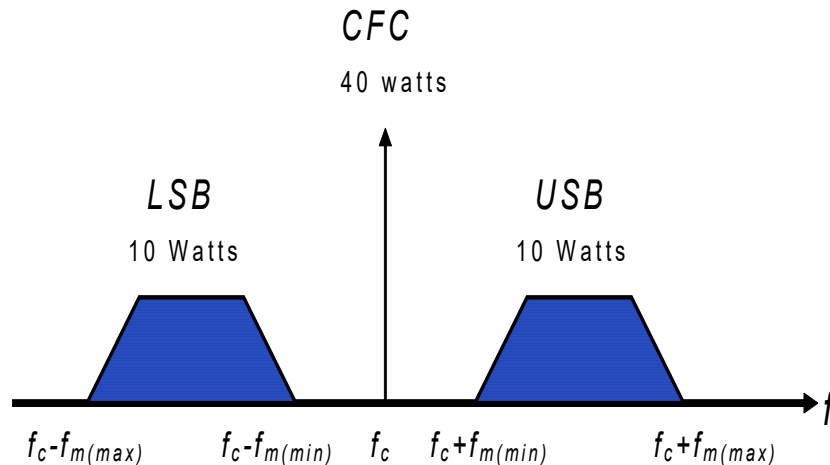
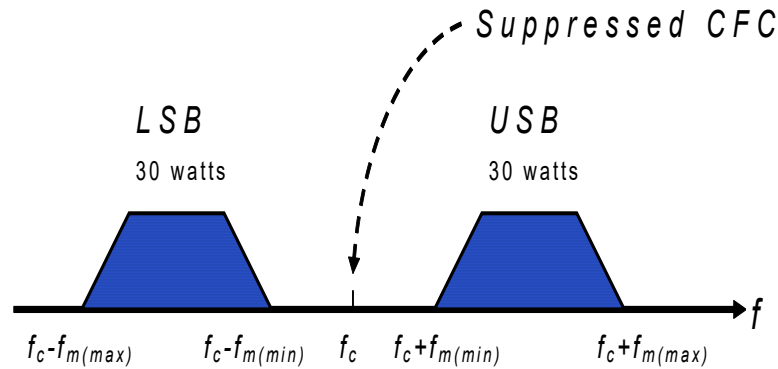

Figure 6-1: A Conventional AM (DSB-FC) Signal
Figure 6-2: A DSB-SC Signal
Figure 6-1 shows a typical AM signal, which can be thought of as a DSB-FC (double-sideband, full-carrier) signal.
Speech is to be sent using an AM transmitter. The available carrier power is 40 watts, as in Figure 6-1. The transmitter is operating at 100% modulation.
The carrier frequency component (CFC) uses up most of the available transmitter power in a conventional AM transmission. By using a special circuit called a *balanced modulator*, we can produce an AM signal with sidebands but no CFC. Such a signal is called a *double-sideband suppressed-carrier* emission, and is pictured in Figure 6-2.
The carrier frequency component is *gone* from the signal above, but something else has happened. Closely compare Figures 6-1 and 6-2. The *sidebands* have suddenly grown in power! Why is this possible?
The total available power was 60 watts for the original AM signal of Figure 6-2. When we removed the 40 watt carrier, those 40 watts of power became available for transmitting information. Therefore, *all* of the transmitted power is information power -- a great improvement over conventional AM.
If the total power of the transmission of Figure 6-2 is 60 watts (same as Figure 6-1), and again human speech is to be transmitted, calculate:
As you can see from Figure 6-2, the bandwidth of the signal will remain unchanged, since we're still sending two sidebands. The bandwidth will therefore remain at $(2)(3000 \text{ Hz})$ or 6 kHz.
- The decibel power advantage of the SSB signal over the AM signal of Figure 6-1.